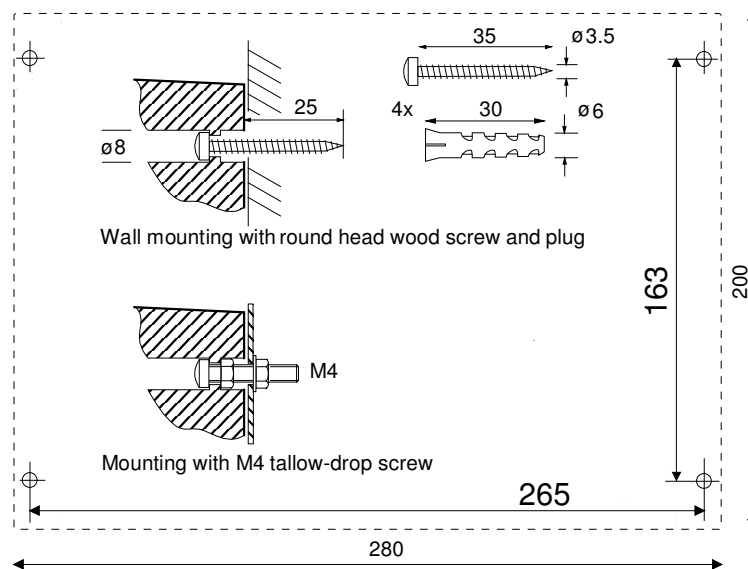

Fig. 4.1: Mounting of KATFLOW 120
- At the selected location, drill 4 holes in the wall according to Fig. 4.1.